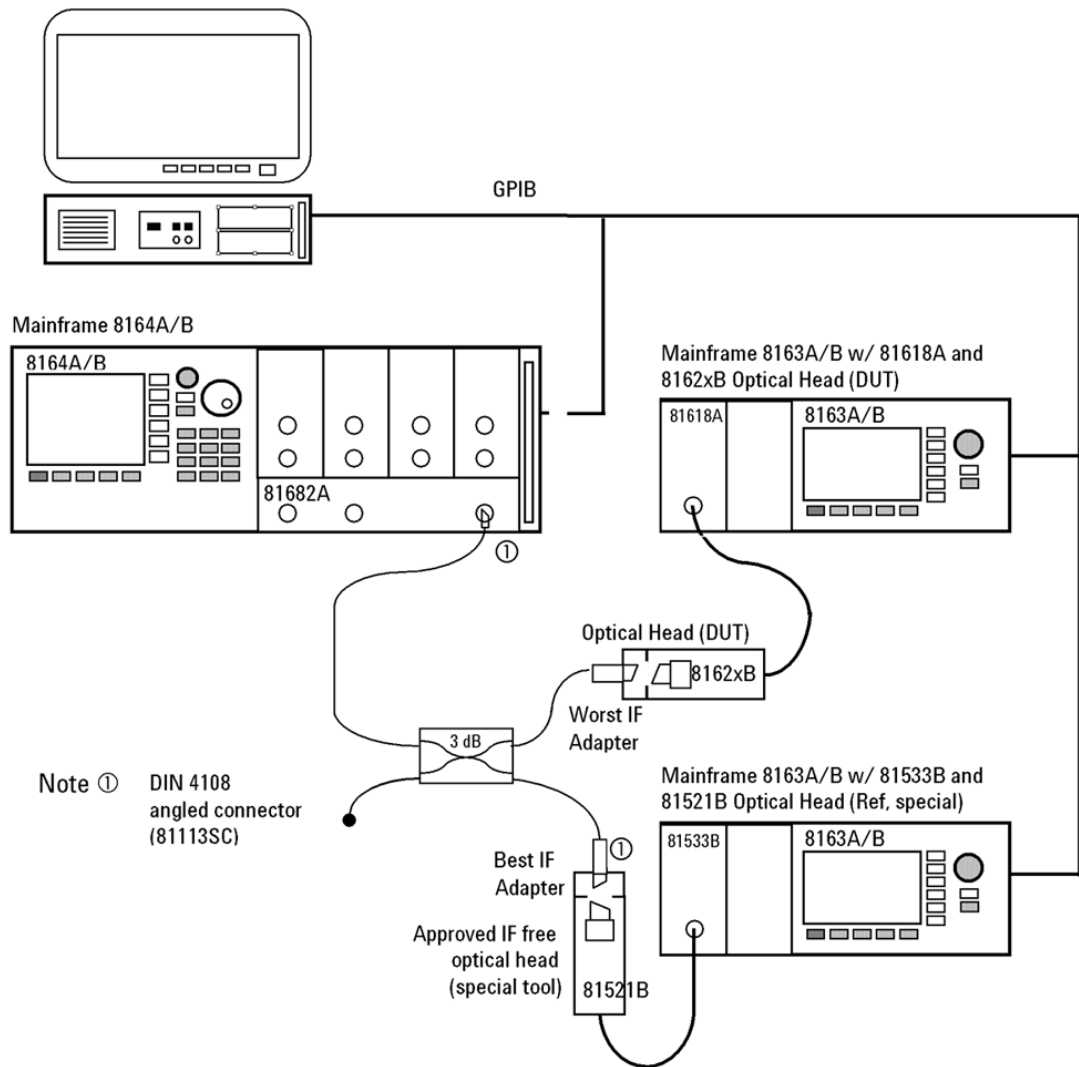

Figure 8 Setup for Relative Uncertainty due to Interference Measurement
- 9 Disconnect the 81610CC Reference Cable from the setup and connect a 81113SC user cable to the Return Loss Module and leave the other end open as shown in Figure 8.
Refer to Figure 8 for a test setup to verify the relative uncertainty due to interference within the optical head optical assembly. In order to perform the relative uncertainty due to interference test, it is mandatory to use two mainframes, since the time difference between measurement A and B for a specific wavelength point has to be no greater than 2 ms. Due to this short measurement interval, the performance test of the Relative Uncertainty Due to Interference can only be performed under computer control.